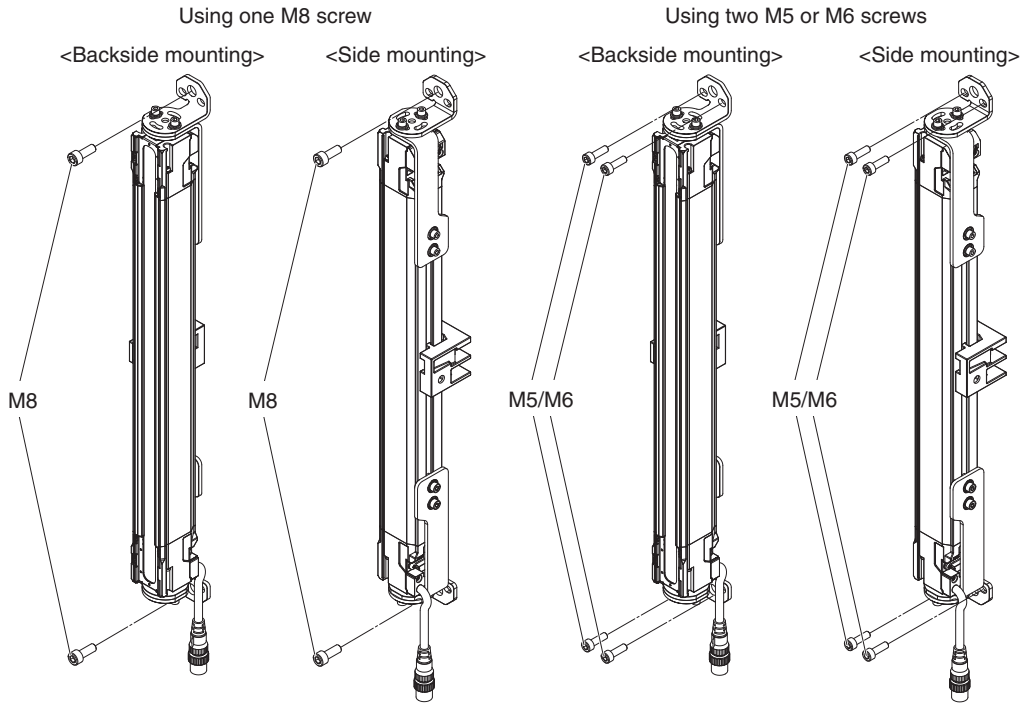

Fig. 7
6. Securely tighten screws to fix the Top/Bottom Bracket to the mounting position of the wall surface. (Fig.7)